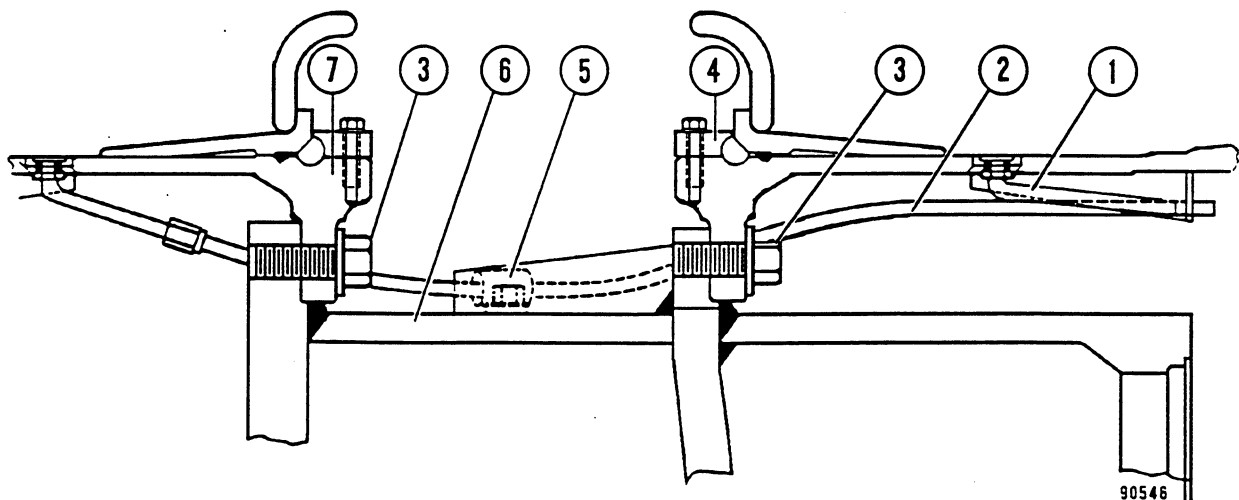

FIGURE 2-3. REAR WHEELS AND TIRES
3. Disconnect inner tire valve stem (2, Figure 2-3) and valve stem clamp. Remove valve extension.
4. Grasp the outer wheel and tire with the tire handler. Remove wheel capscrews and washers (3) securing outer rim to wheel hub (6).
6. If inner tire removal is necessary, remove capscrews and washers (3) and pull straight out to remove from wheel hub.
7. Grasp inner tire with tire handler and pull straight out to remove from wheel hub (6, Figure 2-3).